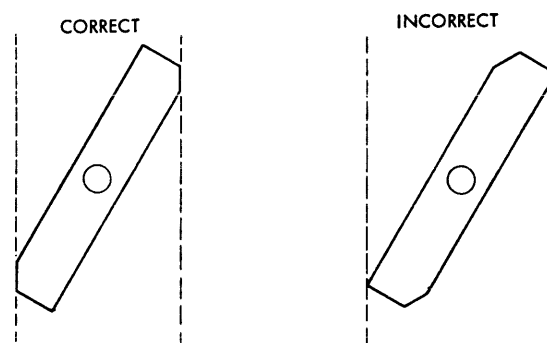

Figure 47. Prolay Armature, Reassembly
1. Armature bevels line up with neutral pole pieces (upper right and lower left). See Figure 47.
4. Make certain that the two beveled corners of the armature go to the neutral pole piece. See Figure 47.